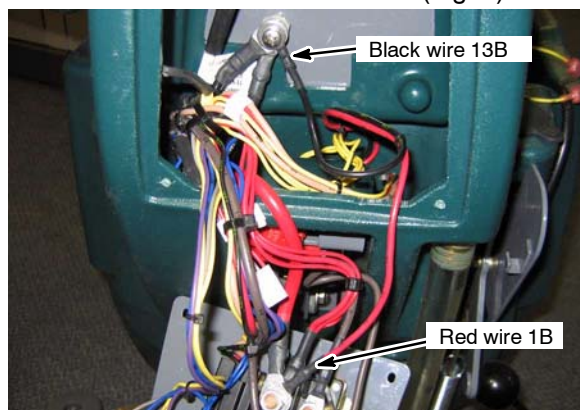

Fig. 2
2. Disconnect the black and red wires (Fig. 2).